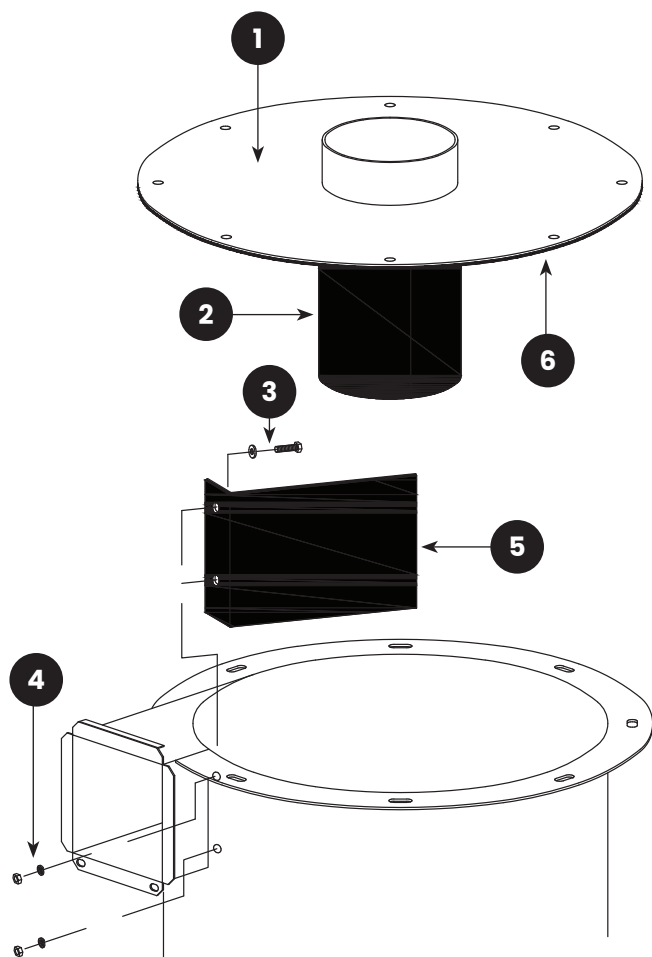

FIGURE 9: (1) Reclaimer Top; (2) Cylinder Liner; (3) Baffle Bolts and Flat Washers; (4) Baffle Nuts and Lock Washers; (5) Lined Baffle; (6) Top Liner
7.3.8 | Remove the bolts and nuts, securing the reclaimer top, and then remove the top (and top liner and cylinder liner if the reclaimer is currently lined), as shown in **Figure 9**.
7.3.10 | Remove the nuts and washers located along the right side of the inlet and remove the lined baffle through the top of the reclaimer, as shown in **Figure 9**.